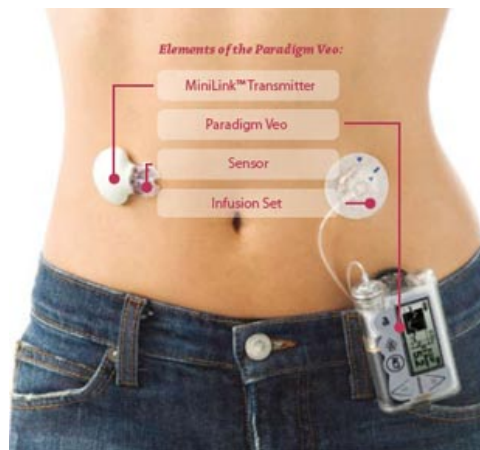

Figure 1: The proposed Medtronic "Artificial Pancreas"
Type-1 diabetes mellitus (TD1M) is an autoimmune disease affecting the ability of a person to produce insulin for efficient regulation of glycemia, leading to periods of hyperglycemia, potentially resulting in vascular disease, heart attack, strokes, blindness and kidney damage. Optimizing glycemia in persons with TD1M usually consists in taking blood samples for glucose measurement and administering insulin, typically in multiple daily injections. A closed-loop control system able to continuously infuse insulin to maintain the measured blood glucose content at safe values has the potential to reduce the rate of diabetic complications while easing the burden of therapeutic regimen for the patient. Such an "artificial pancreas" has been the object of intense research for 40 years, see Figure 1 for a recently tested system which uses subcutaneous (SC) insulin delivery.